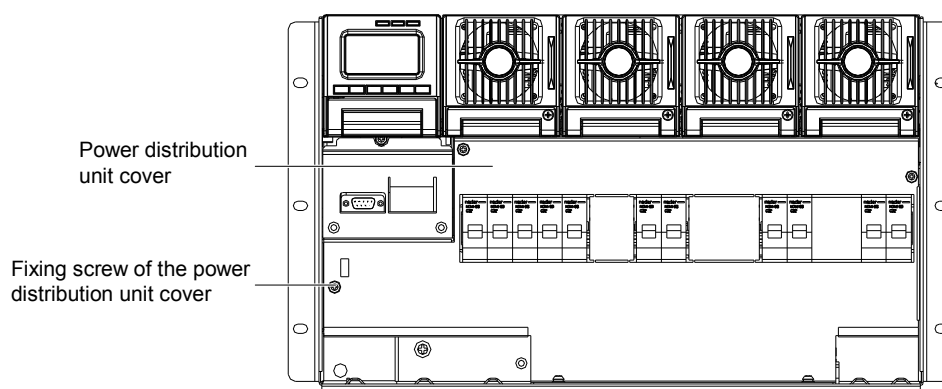
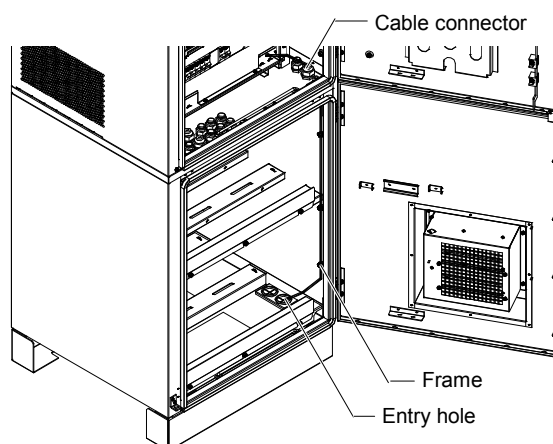

Figure 2-9 Position of the power distribution unit cover
Figure 2-10 Routing grounding cable
1. Remove the power distribution unit cover. The cover is shown in Figure 2-9.
2. Cut the cable bushing over the entry hole with an electrician knife to lead in cables, as shown in Figure 2-10.
After finishing the cable connections, replace the power distribution unit cover (see Figure 2-9) and seal the entry holes (see Figure 2-10) with fireproof mud.